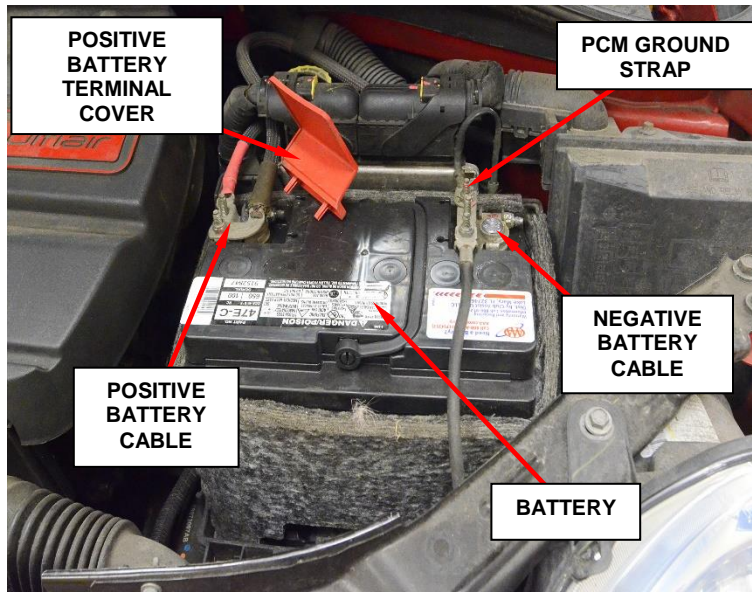

Figure 1 – Positive Battery Terminal Cover
2. Place the gearshift lever in gated Park (P) and remove the ignition key.
4. Remove the positive battery terminal cover (Figure 1).
5. Disconnect the positive battery cable (Figure 1).
6. Disconnect the Powertrain Control Module (PCM) ground strap at the negative battery cable (Figure 1).
7. Disconnect the negative battery cable (Figure 1).
26. Install the battery into the battery tray (Figure 1).
29. Connect the positive battery cable, then tighten the clamp nut to 7 N·m (62 in. lbs.) (Figure 1).
30. Connect the negative battery cable, then tighten the clamp nut to 7 N·m (62 in. lbs.) (Figure 1).
31. Install the positive battery terminal cover (Figure 1).
32. Connect the PCM ground strap to the negative battery cable (Figure 1).